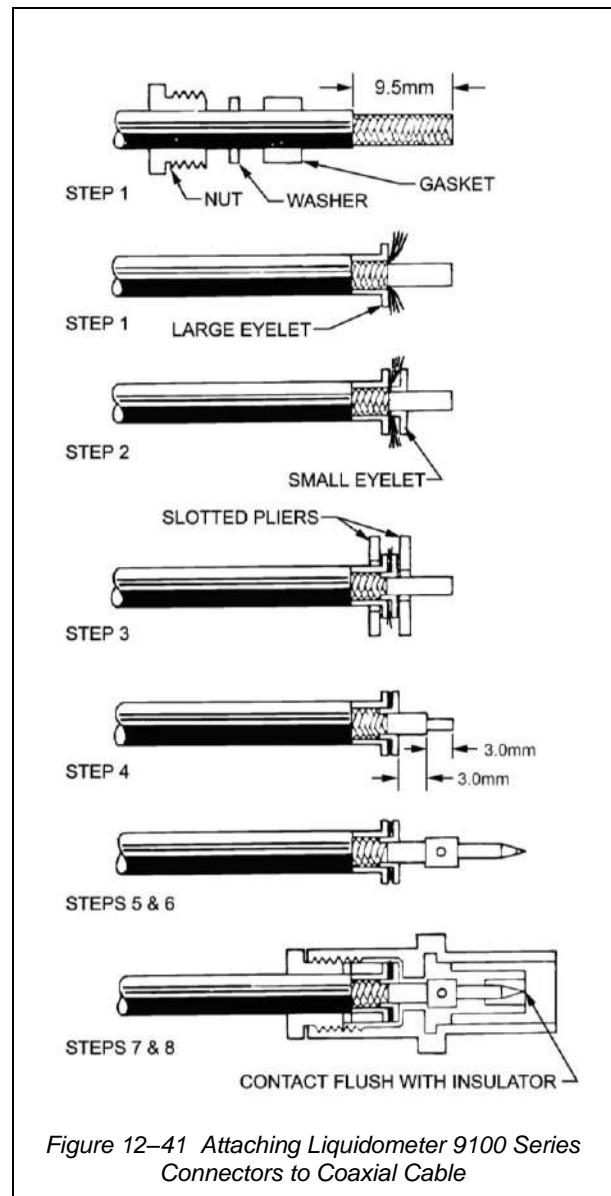

Figure 12-41 Attaching Liquidometer 9100 Series Connectors to Coaxial Cable
35. For assembly of Liquidometer 9100 series connectors to RG-58/U coaxial cable, (see Figure 12-41), use the following procedure: